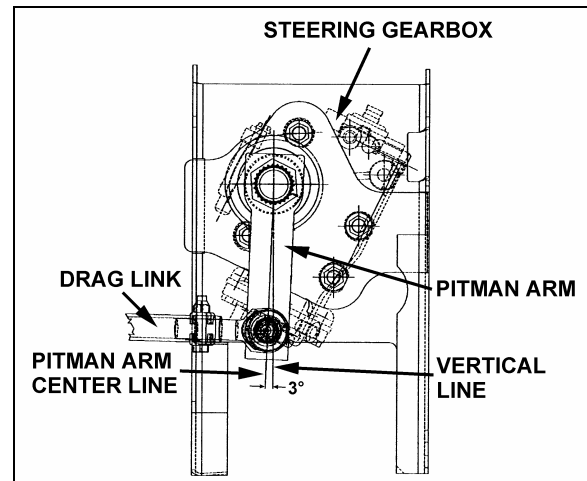

FIGURE 5: PITMAN ARM ADJUSTMENT
2. Using a protractor, check the angle of the pitman arm (refer to Fig. 5 for details).